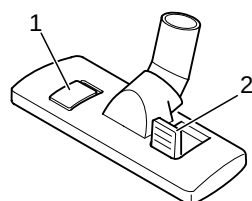

Fig. 8
5. Adjust the carpet/hard floor switch (Fig. 8/1) in accordance with your type of flooring:
- **Hard floors (Fig. 8/1)**
- **Carpet (Fig. 8/2)**